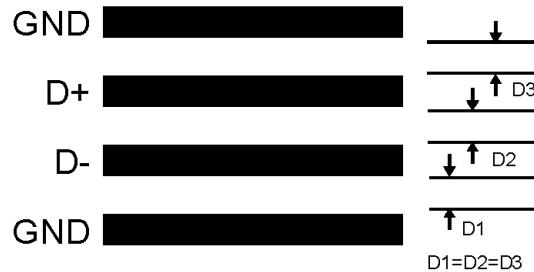

Figure 15. Ideal Diode Trace Layout
4. Diode traces should be surrounded by a GND guard ring to either side, above and below if possible. This GND guard should not be between the $D+$ and $D-$ lines. In the event that noise does couple to the diode lines it would be ideal if it is coupled common mode. That is equally to the $D+$ and $D-$ lines.(See Figure 15)